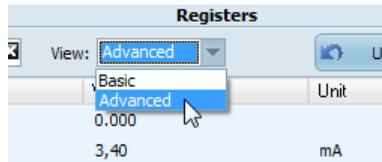

Figure 8.2. The list of registers views
Devices often contain quite large number of registers. Most of them are rarely used. To help user set-up, the program has the ability to hide displaying much advanced registers or registers with other criteria. This is done by using the **List of views (8)**.(Figure 8.2).